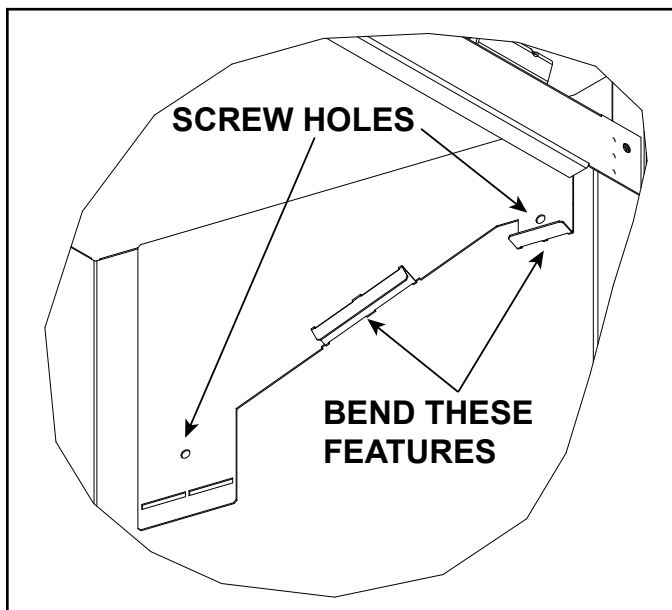
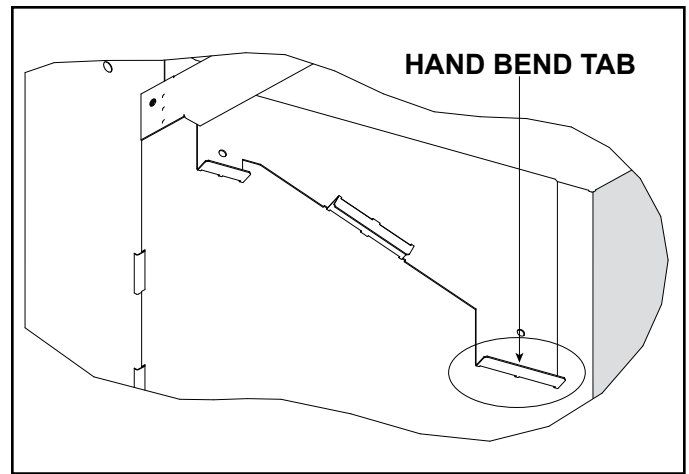

Figure 7. Bend Upper Glass Brackets
Figure 8. Upper Glass Brackets Installed (Left Upper Bracket Shown)
8. Locate the two upper glass brackets that are shipped flat. Bend the "Right" bracket as shown in Figure 7. Bend the "Left" bracket shown in Figure 8.
9. Install right upper glass bracket by pushing the bracket "up" to the firebox top and "out" to the front face of the firebox. The front edge of the bracket should be tight to the firebox face and the top edge of the bracket should be tight to the firebox top. Install the bracket by inserting the two self-tapping screws through the bracket into the firebox. See Figure 7. Repeat step 9 for left upper glass bracket installation.
350X-AU, 550X-AU: The right and left upper glass brackets will slide up to the top of the firebox between the firebox side and the edge of the top heat shield. Figures 7 and 8 are shown without an upper heat shield.
11. With one hand on the rear glass panel, bend "up" one hand bend tab on the upper glass bracket to approximately 90 degrees. See Figure 8. Once the hand bend tab is properly bent, the glass panel will not tip forward. Bend "up" the hand bend tab on the opposing bracket. The rear glass panel is now installed. This panel will be held in place by the side panels once they are installed.